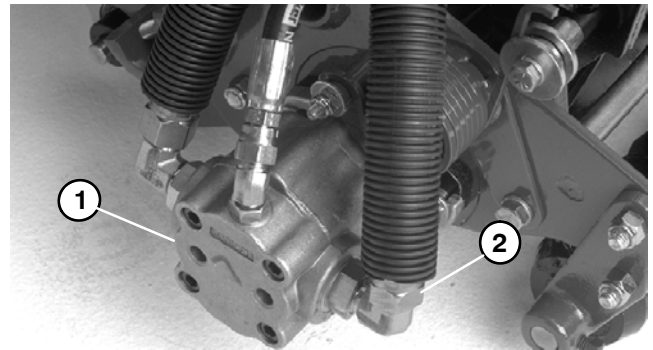

Figure 20
4. Disconnect pressure hose from hydraulic fitting on **left-rear (No. 2)** reel motor (Fig. 20).